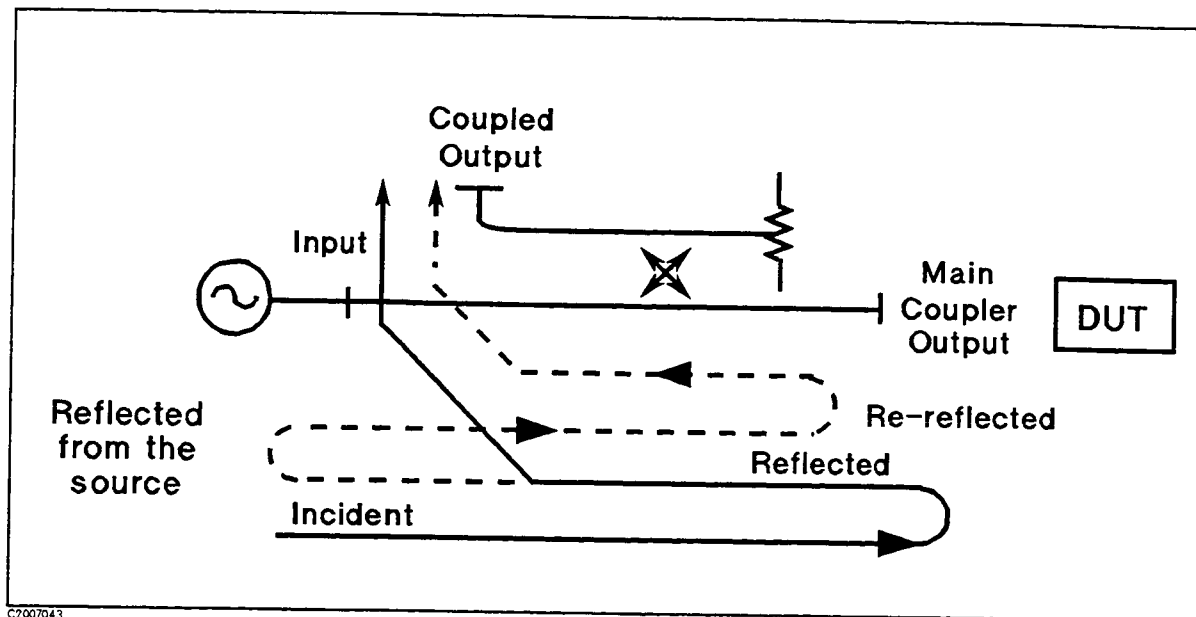

Figure 7-2. Source Match
- In a reflection measurement, the source match error signal is caused by some of the reflected signal from the DUT being reflected from the source back toward the DUT and re-reflected from the DUT (Figure 7-2).